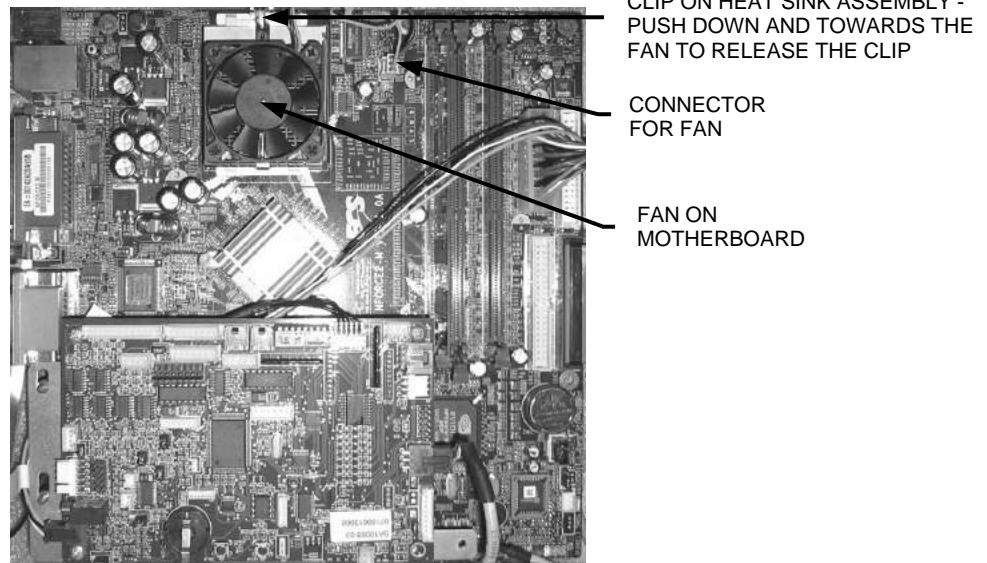

FIGURE 1 – ECS MOTHERBOARD AND I/O BOARD ASSEMBLY
3. Locate the fan attached to the motherboard, and disconnect the 3-pin fan connector from the motherboard. See Figure 1.